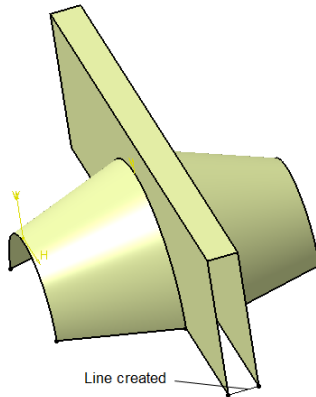

Figure 17-109 Line created for Fill surface
1. Choose the **Line** tool from the **Wireframe** toolbar. Select the open end points of the base surface. Choose **OK** to create a line, refer to Figure 17-109. Similarly create another line on the other side.